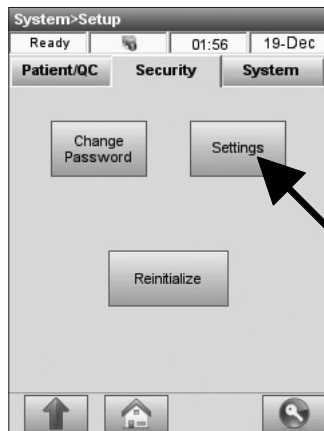

Fig. 3-44 Settings
2. On the **<Security>** tab in the **<Setup>** menu, press **<Settings>** (Fig. 3-44) to access the **<Settings>** menu.